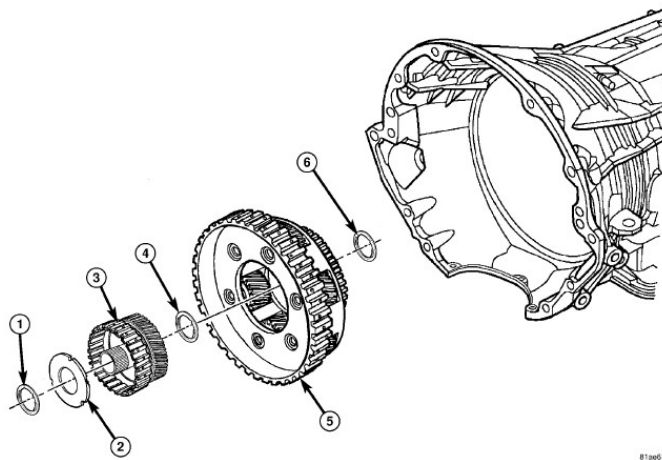

Fig. 15
- 30. Install the number 8 thrust bearing into the 4C clutch hub reaction sun gear assembly with the blue ink stripe against the sun gear with the inner race facing up Fig. 15.